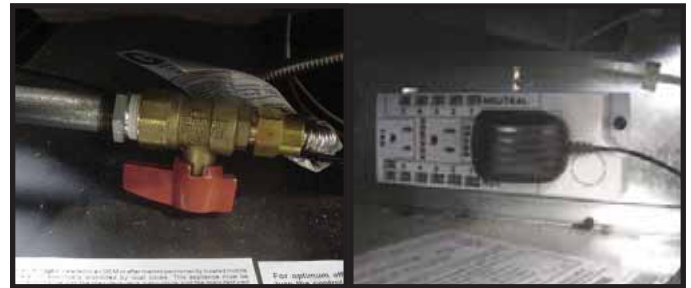

Figure 1.
1. Turn off gas to valve. Red gas shutoff knob is located on ball valve. See Figure 1.
2. Disconnect the 3 volt transformer from the junction box. See Figure 1.